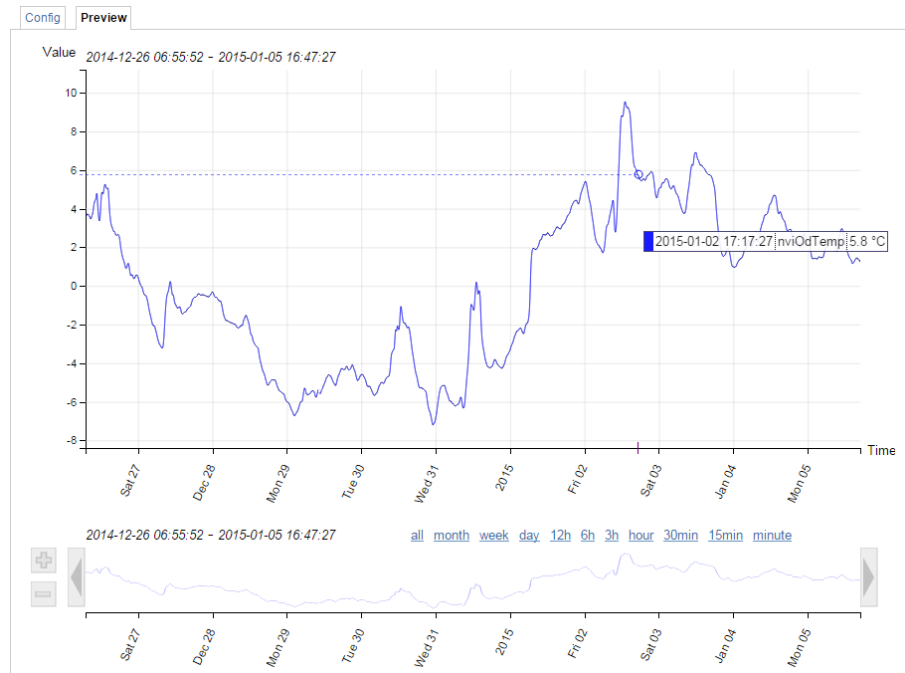

Figure 36: New trend chart on the Web UI
- The trend log configuration on the Web UI now also provides a preview tab, which shows a chart of the trend log data. The trend chart allows zoom, scrolling and hiding specific data curves, as shown in Figure 36.